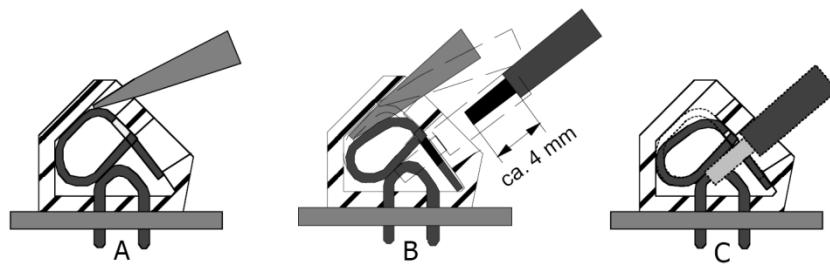

Figure 45. Connection in screwless spring-loaded terminals
- Insert a size 1 screwdriver in the upper opening and insert it turning slightly upwards (figure 45 A).
- Now place the stripped connecting wire in the lower opening and hold it there securely (figure 45 B).
- Withdraw the screwdriver. The connecting wire is then firmly fixed (figure 45 C).
The insulation of the connecting line must extend as far as the terminal indentation, i.e. there must be no further bare part of the connecting line visible above the terminal edge (as shown in figure 45 C). Touching live parts is dangerous to life. The stripped part of the connecting wire should be shortened, if necessary.